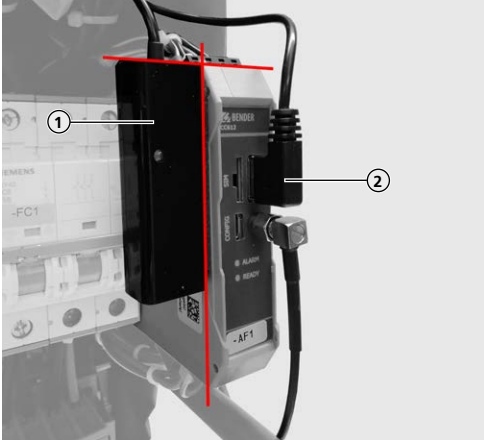

Fig. 4: Stick the USB to Ethernet adapter flush on the ECU
- ▶ Stick the USB to Ethernet adapter (1) flush on the ECU (see Fig. 4).
- ▶ Insert the USB plug (2) of the USB to Ethernet adapter into the ECU.